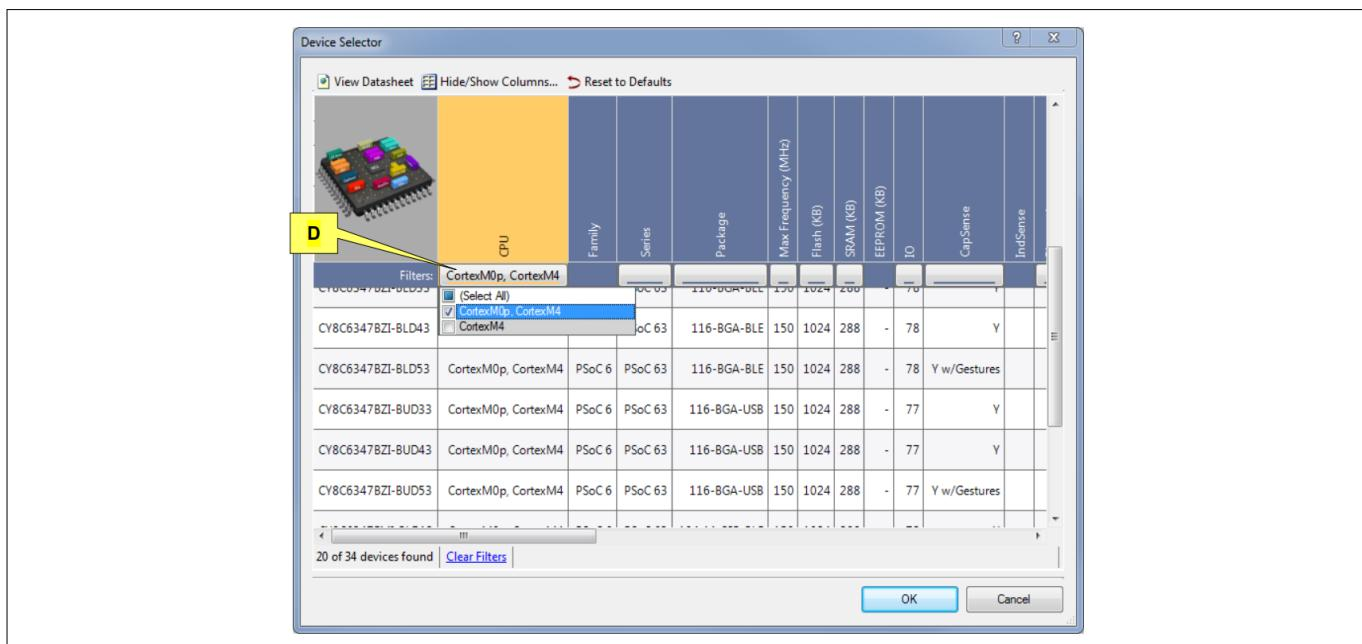

Figure 407 PSoC™ Creator device selector dialog
Figure 407 shows the Device Selector dialog. To see a list of dual-core devices, click the **CPU** category (D) and select only **CortexM0p, CortexM4**.